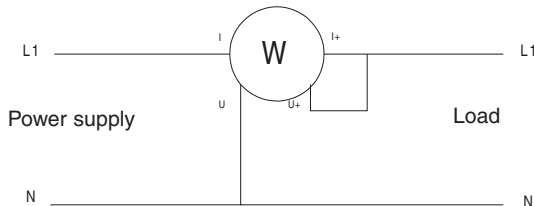
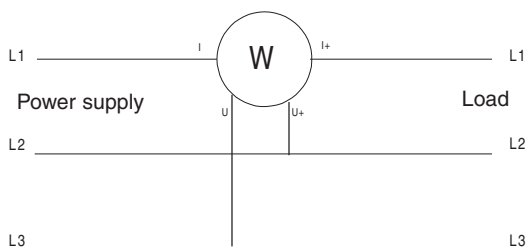

Fig 4.4.1 Single-phase connection diagram
Fig 4.4.2 Three-phase/balanced wires (T3FE) connection diagram (PX 120 only)
Set up as indicated in the connection diagrams in Fig.4.4.1 (single phase) or Fig.4.4.2 (balanced three-phase, T3FE only PX 120), depending on the case, making sure if possible that the maximum acceptable limits are not exceeded (see table below). Range switching is automatic.
3. Set up as indicated in the connection diagrams in Fig.4.4.1 (single phase) or Fig.4.4.2 (balanced three-phase, T3FE only PX 120), depending on the case, making sure if possible that the maximum acceptable limits are not exceeded (see table below).
3. Set up as indicated in the connection diagrams in Fig.4.4.1 or Fig.4.4.2 (T3FE only PX 120), depending on the case, making sure if possible that the maximum acceptable limits are not exceeded (see table below). Range switching is automatic.